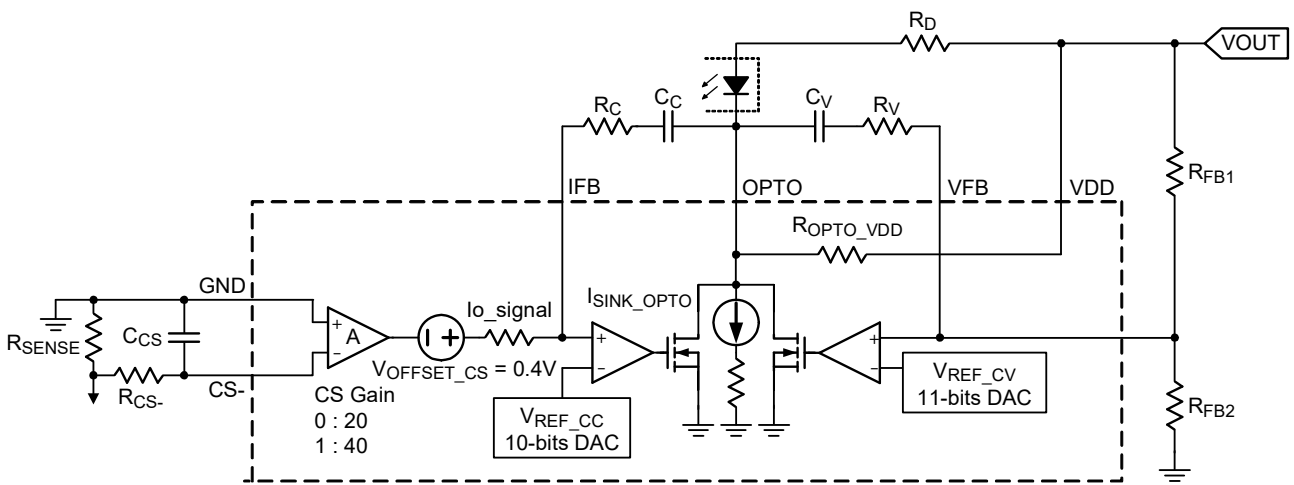

Figure 5. CV Loop and Current-Sense Amplifier
As shown in Figure 5, the RT7202K incorporates an error amplifiers (EA) to regulate output voltage. The output voltage is determined as :